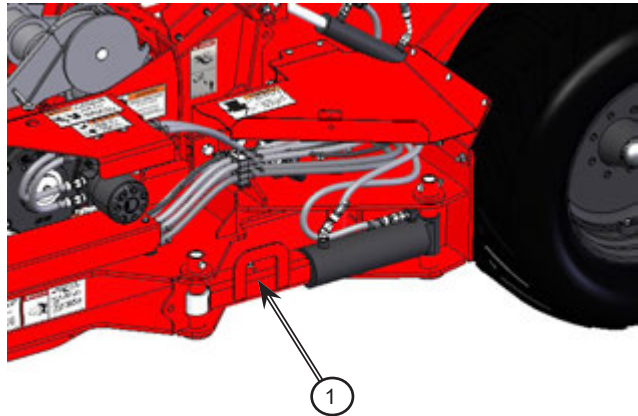

Figure 6.13: Remove the hitch transport lock
1. Remove the hitch transport lock (1) from the hitch cylinder rod; see *Figure 6.13*.